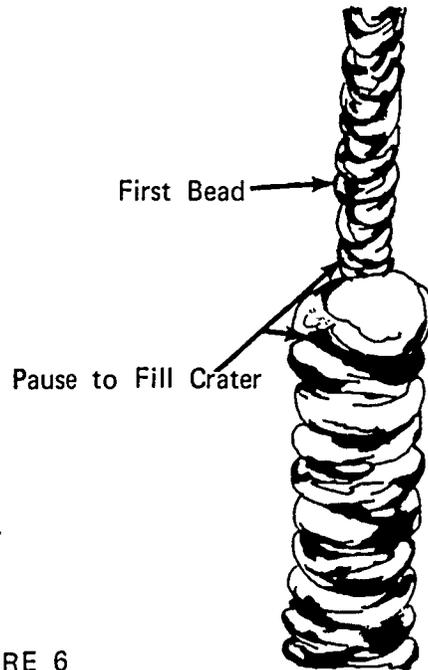

FIGURE 6
- I. When welding second bead, pause at the edges of first bead to fill the crater and avoid undercutting sides of joint (Figure 6)